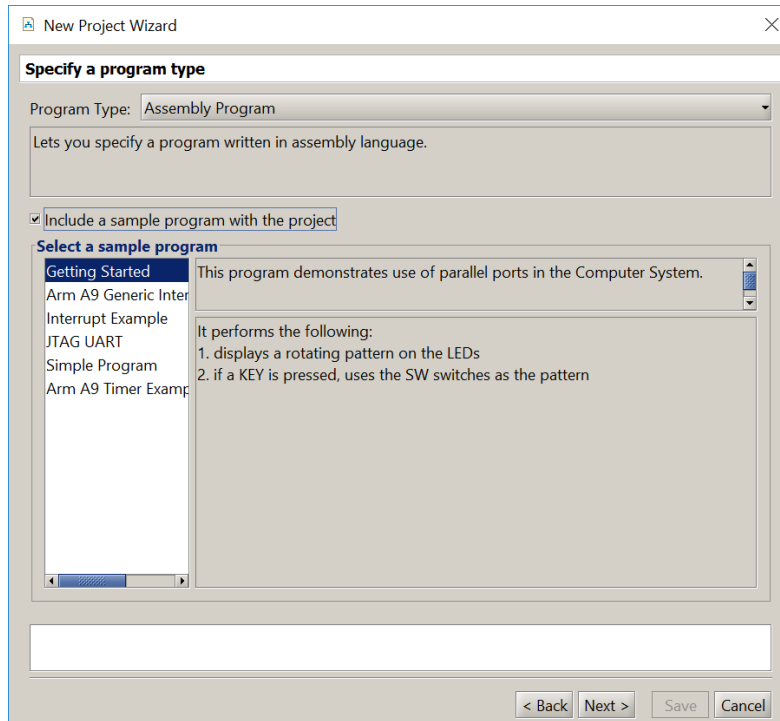

Figure 15: Selection of an application program.
4. In the window in Figure 15 you can specify the type of application programs that you wish to run. They can be written in either assembly language or the C programming language. Specify that an assembly language program will be used. The *Monitor Program* package contains several sample programs. Select the box *Include a sample program with the project*. Then, choose the *Getting Started* program, as indicated in the figure, and click *Next*.
1. Create a new folder for this part of the exercise, with a name such as *Part2*. Create a file named *part2.s* and enter the code from Figure 1 into this file. Use the Monitor Program to create a new project in this folder; we have chosen the project name *part2*. When you reach the window in Figure 15 choose **Assembly Program** but do not select a sample program. Click **Next**.